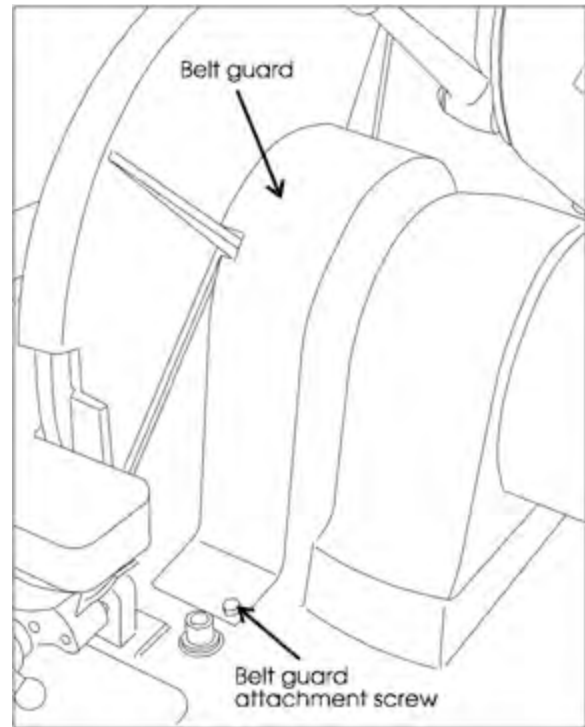

Figure 17: Removing belt guard
2. Remove the belt guard (Figure 17) and disc table.